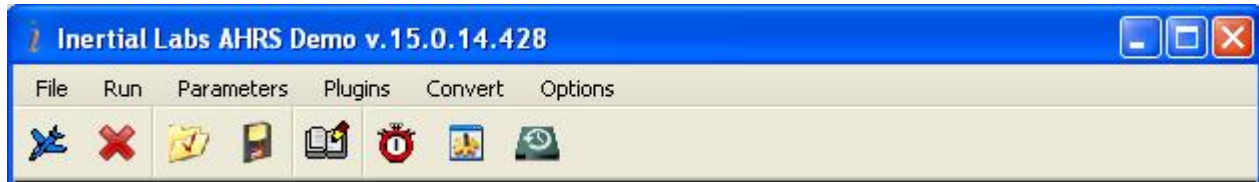
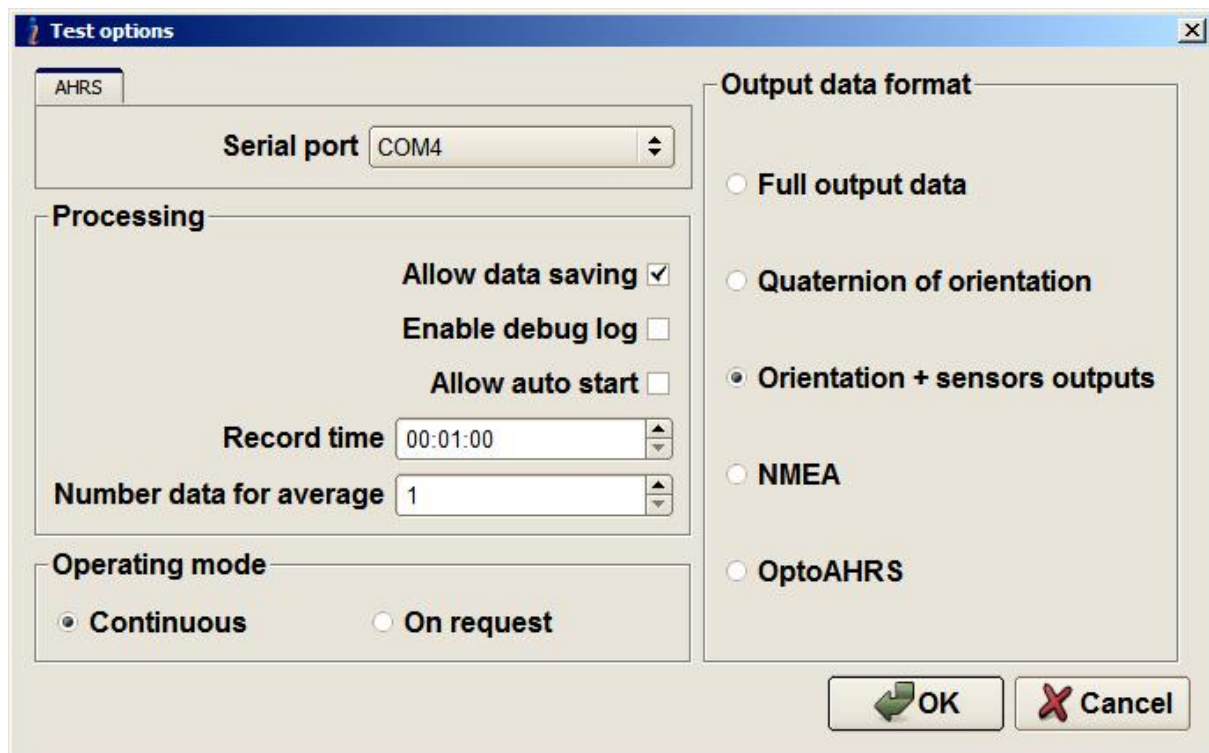
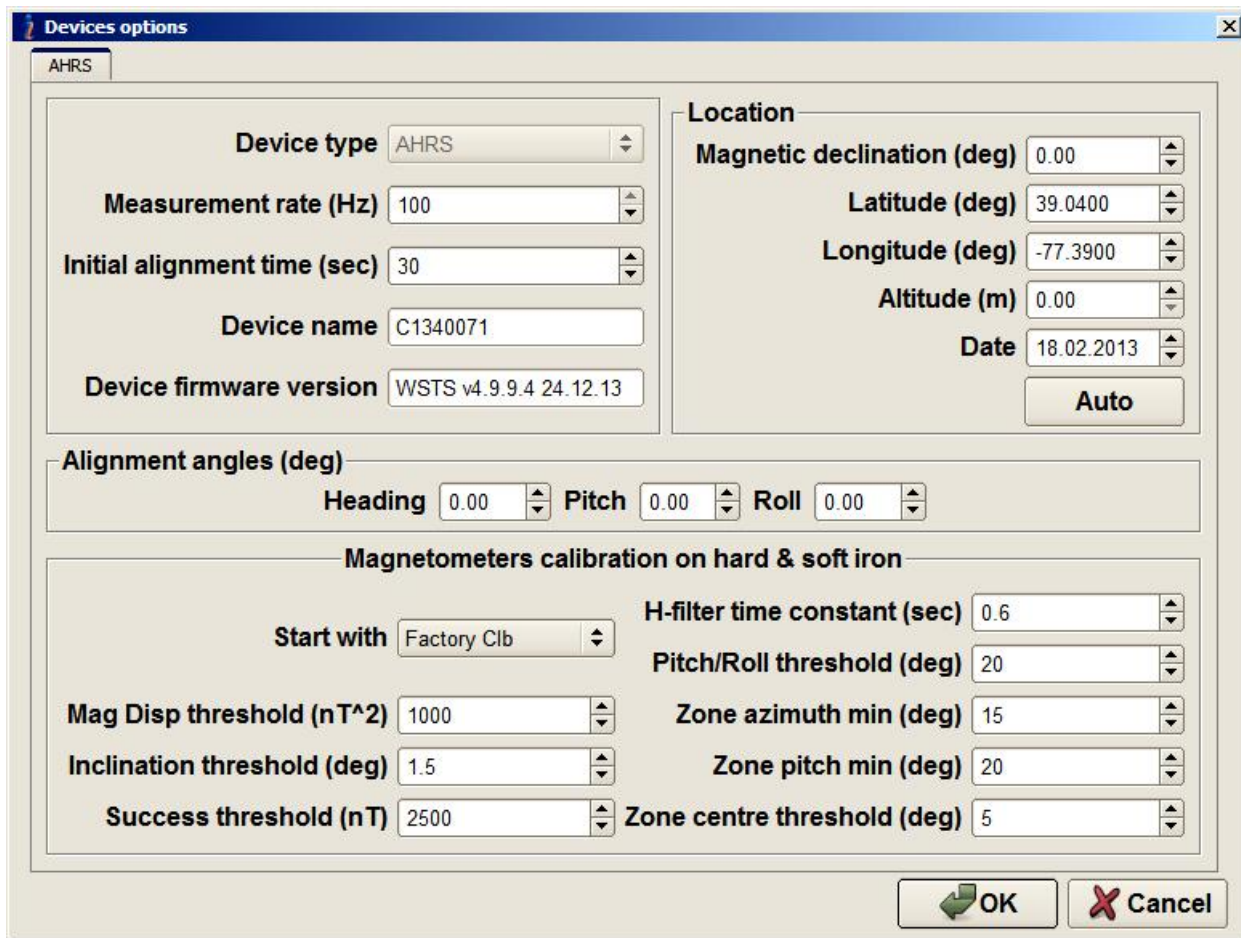
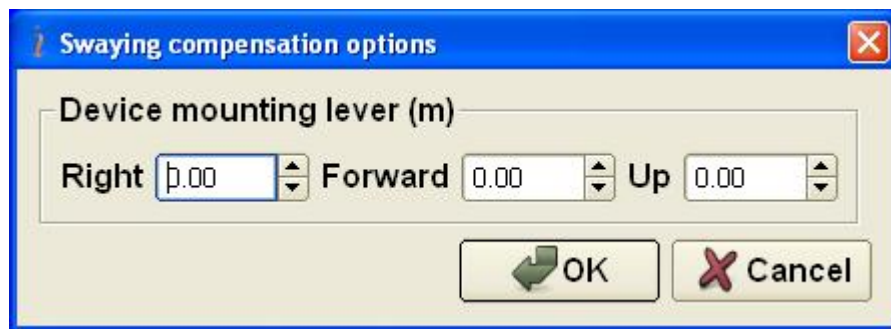

Fig. 3.1
Fig. 4.1
Fig. 4.2
Fig. 4.4
The main menu of the “Inertial Labs AHRS Demo” software contains the following items (see Fig. 3.1).
To set operation parameters of the AHRS, COM port, format of output data, select «**Test options...**» (Fig. 3.7) from the «**Options**» menu (or click  button). A «**Test Options**» dialog box (Fig. 4.1) will be opened.
To set and control of AHRS operation parameters, select «**Device options...**» from the «**Options**» menu (Fig. 3.7), or click  button (Fig. 3.1). A «**Device Options**» (Fig. 4.2) dialog box will be opened.
You can check or set the following parameters in the «**Device Options**» window Fig. 4.2:
It is possible to increase the AHRS accuracy at object Swaying if to compensate linear acceleration at place of the AHRS mounting. For this purpose select «**Swaying compensation options...**» from the «**Options**» menu (Fig. 3.7) or click  button (Fig. 3.1). A «**Swaying compensation options**» dialog box (Fig. 4.4) will be opened that allow you to set the lever of the AHRS mounting relative to the centre of the object Swaying (usually this is object centre of gravity).
**Note:** If the magnetic declination is set correctly in the «Device Options» (see Fig. 4.2) then AHRS outputs true heading, if magnetic declination is set to zero then AHRS outputs magnetic heading.
f) Input supply voltage of the AHRS in VDC “Vinp (V)“.
g) Format of output data “Output Data Format: ...“. This format is set by operator in the «**Test Option**» window (Fig. 4.1).